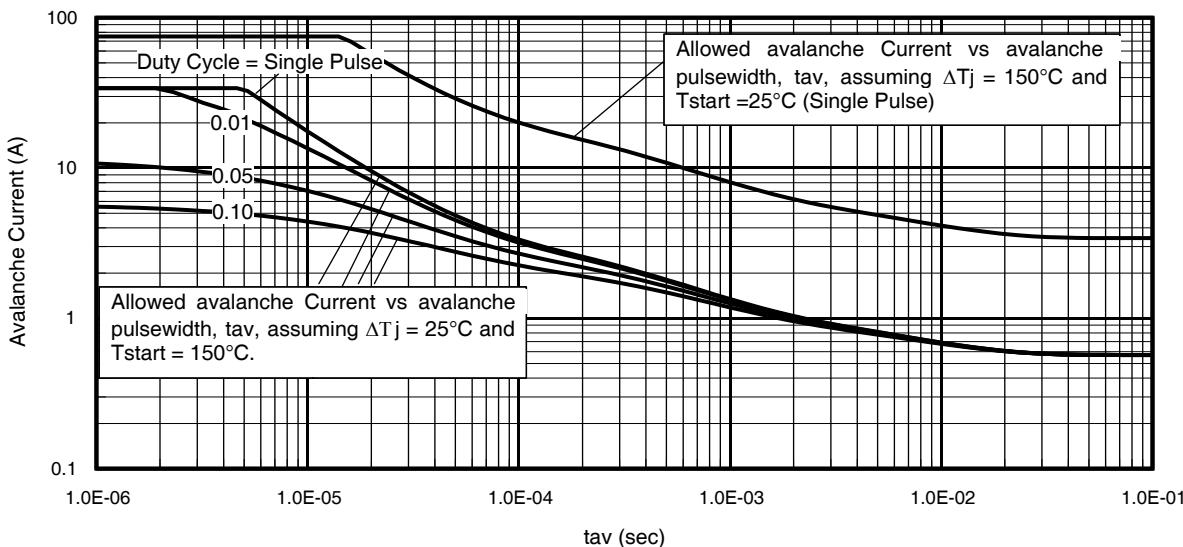

Fig 14. Typical Avalanche Current vs. Pulse width
Notes on Repetitive Avalanche Curves , Figures 14, 15: (For further info, see AN-1005 at www.irf.com)
7. ΔT = Allowable rise in junction temperature, not to exceed T_{jmax} (assumed as 25°C in Figure 14, 15).